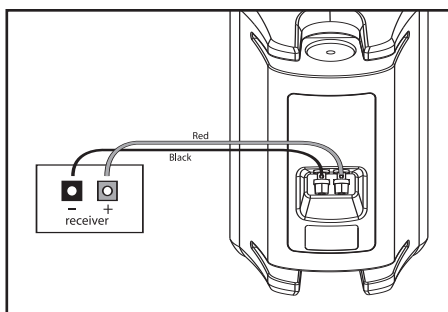

FIGURE 14
- 14) Follow the hookup directions included with your receiver. Strip 1/2 inch of insulation from each of the two conductors of the wire to expose the bare metal and twist each of the conductors into a single unfrayed strand (so you have two unfrayed strands). Note that one of the terminals on the rear of each speaker is red (+) and the other is black (-). Make certain that you connect the wire from the red terminal of your amplifier or receiver to the red terminal on your speaker and the wire from the black terminal of your amplifier or receiver to the black terminal on your speaker [figure 14]. Most wire has some indicator (such as color-coding, ribbing or writing) on one of the two conductors to help you maintain consistency.